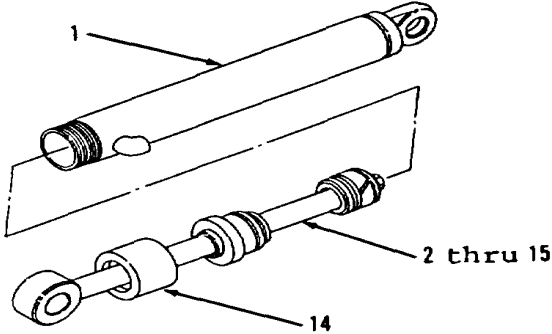
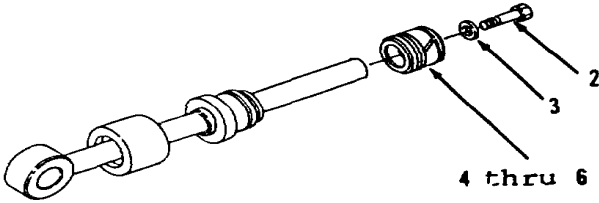
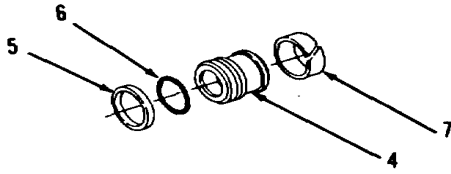

Figure 17-29.
Figure 17-30.
Figure 17-31.
1. Using chain wrench, loosen crown (14, Figure 17-29).
2. Remove items 2 thru 15 as an assembly from cylinder (1).
3. Remove bolt (2) and washer (3, Figure 17-30).
4. Remove items 4 thru 6 as an assembly.
5. Remove seal assembly (5), preformed packing (6) and ring (7) from piston (4, Figure 17-31). Discard seal assembly (5) and preformed packing (6).
- 6. Using seal expander, install ring (7), new preformed packing (6) and new seal assembly (5) on piston (4, Figure 17-31).
- 7. Install items 6 thru 4 as an assembly on rod (15, Figure 17-30).
- 8. Using thread lubricant, lubricate threads of bolt (2).
- 9. Install washer (3) and bolt (2) and tighten bolt (2) to 800 ft-lb torque.
- 10. Using clean grease, lubricate outside of head (8) and inside of crown (14, Figure 17-29).
- 11. Install items 15 thru 2 as an assembly in cylinder (1).